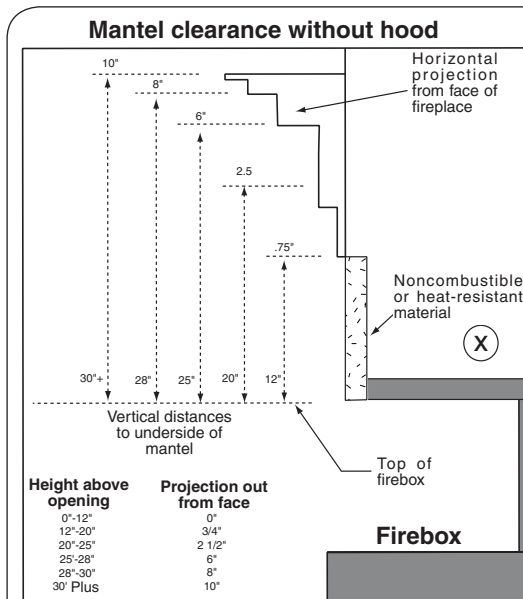
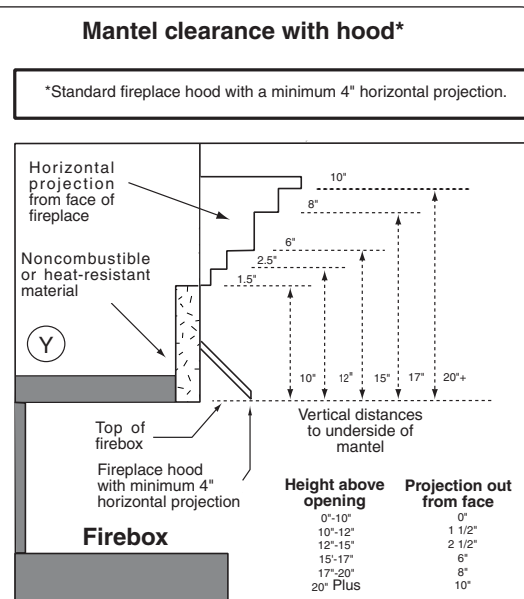

Fig. 11-2
Fig. 11-3
Mantel: (see Figs. 11-2, 11-3, and paragraph A below)
To install the unvented gas log set, there must **ALWAYS** be noncombustible or heat-resistant material immediately above the fireplace opening. Heat-resistant materials (i.e., marble or slate) must be at least  $\frac{5}{8}$ " thick. Sheet metal should not be installed onto combustible materials. If you **DO NOT** install a fireplace hood, there **MUST** be at least **12"** of noncombustible or heat-resistant material immediately above the fireplace opening (see X in Fig. 11-2 below). If you **DO** install a fireplace hood, there **MUST** be at least **10"** of noncombustible or heat-resistant material immediately above the fireplace opening (see Y in Fig. 11-3 below). If there is a wooden mantel, shelf, or other combustible projection above the fireplace, follow the information in Fig. 11-2 or Fig. 11-3 below.
1. If a fireplace hood is not installed - 2.5" (see Fig. 11-2).
2. If a fireplace hood is installed - 10" (see Fig. 11-3).